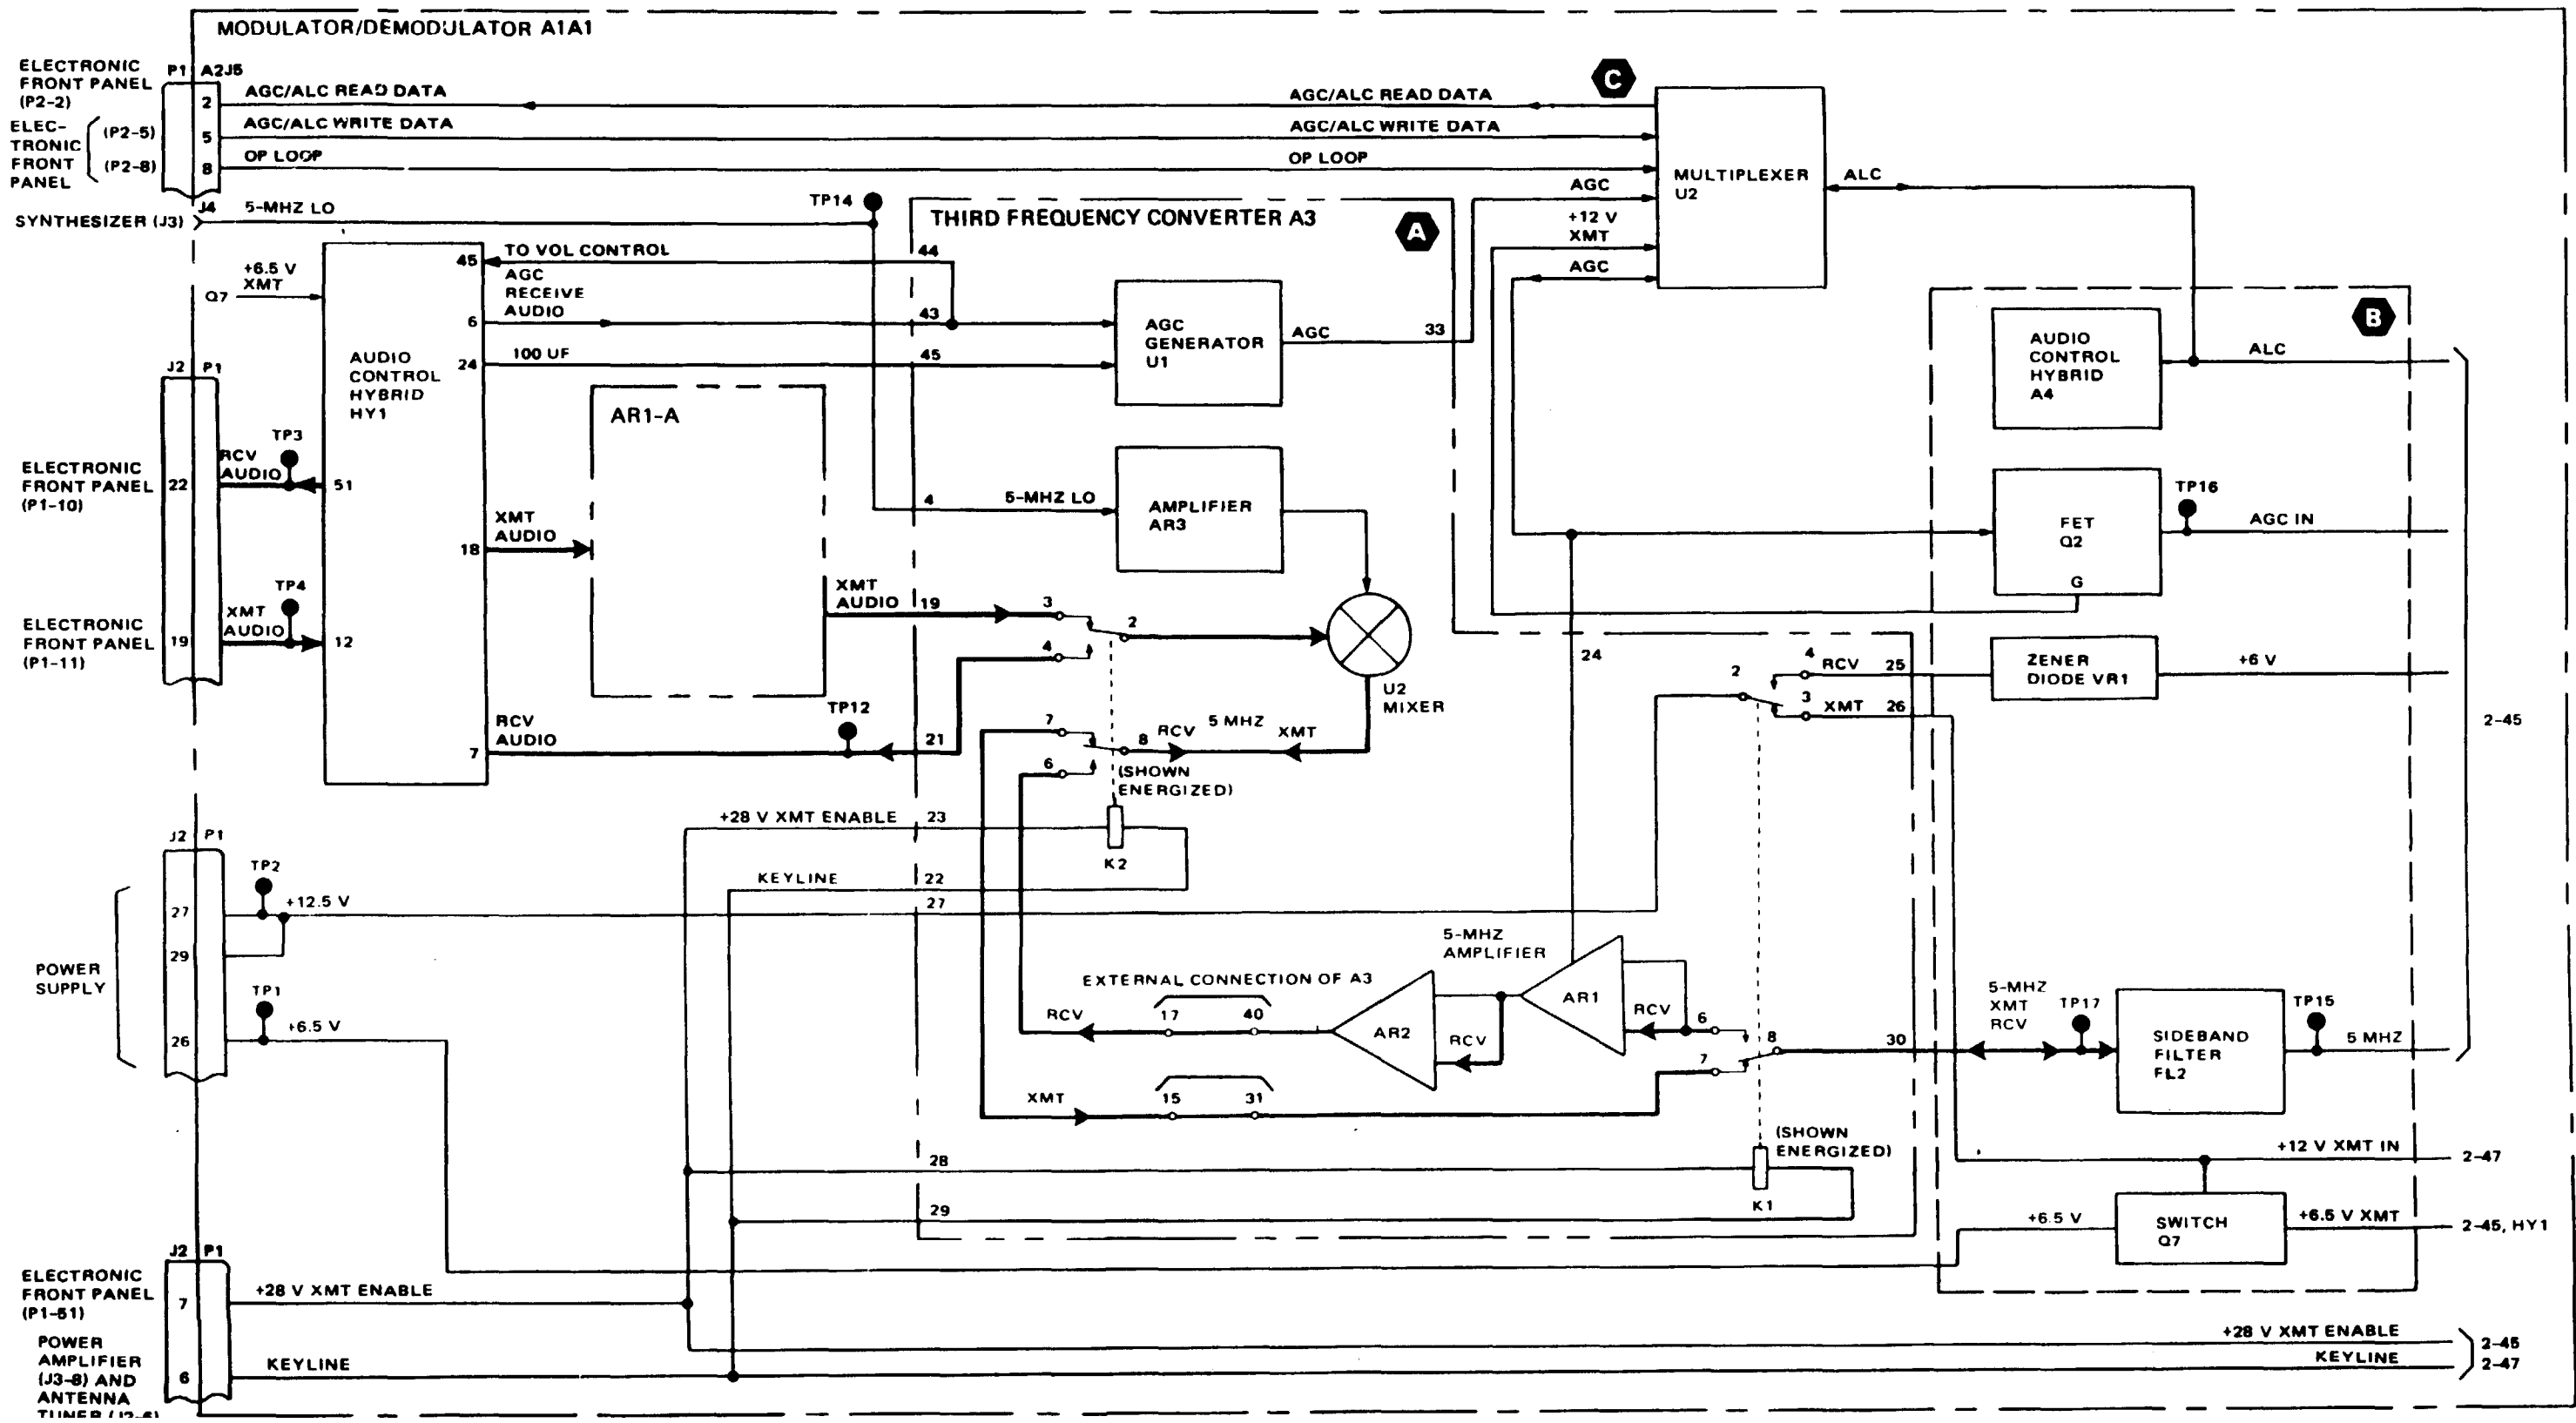

Figure 2-17. Frequency Converters (Sheet 1)
**FREQUENCY CONVERTERS (3 of 6), fig 2-17, sh 2**